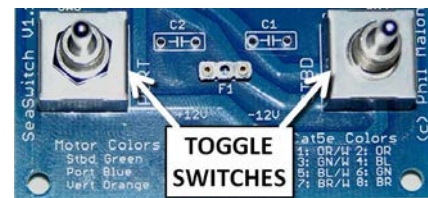
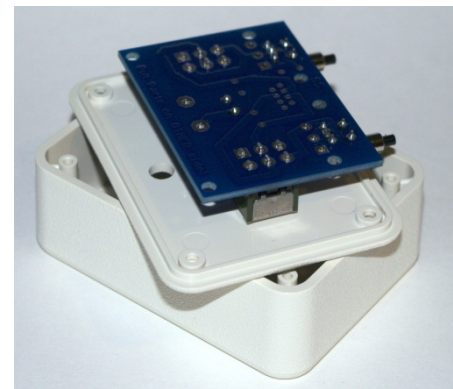

Figure 3.3-3: Toggle Switches Installed in the "SW1" and "SW2" Locations
Figure 3.3-4: Toggle Switches Held Straight by the Control Box Lid During the Soldering Process
- Find the two **toggle switches** and the **control box lid**. Place the switches in the "SW1" and "SW2" locations on the PCB, as shown in Figure 3.3-3. It is also important to keep these switches **flat** against the board while they are soldered into place, so that they will be straight when the control box is finished. A good way to do this is to use the control box lid to hold the switches while soldering. Put the toggle handles through the two center holes in the control box lid (they may be tight). Then, while holding the PCB against the back of the switches, turn the assembly over and place it across the open top of the control box, as shown in Figure 3.3-4. Hold the PCB down flat while soldering the first of the 12 switch connections, to make sure that it will be tight against the switches.